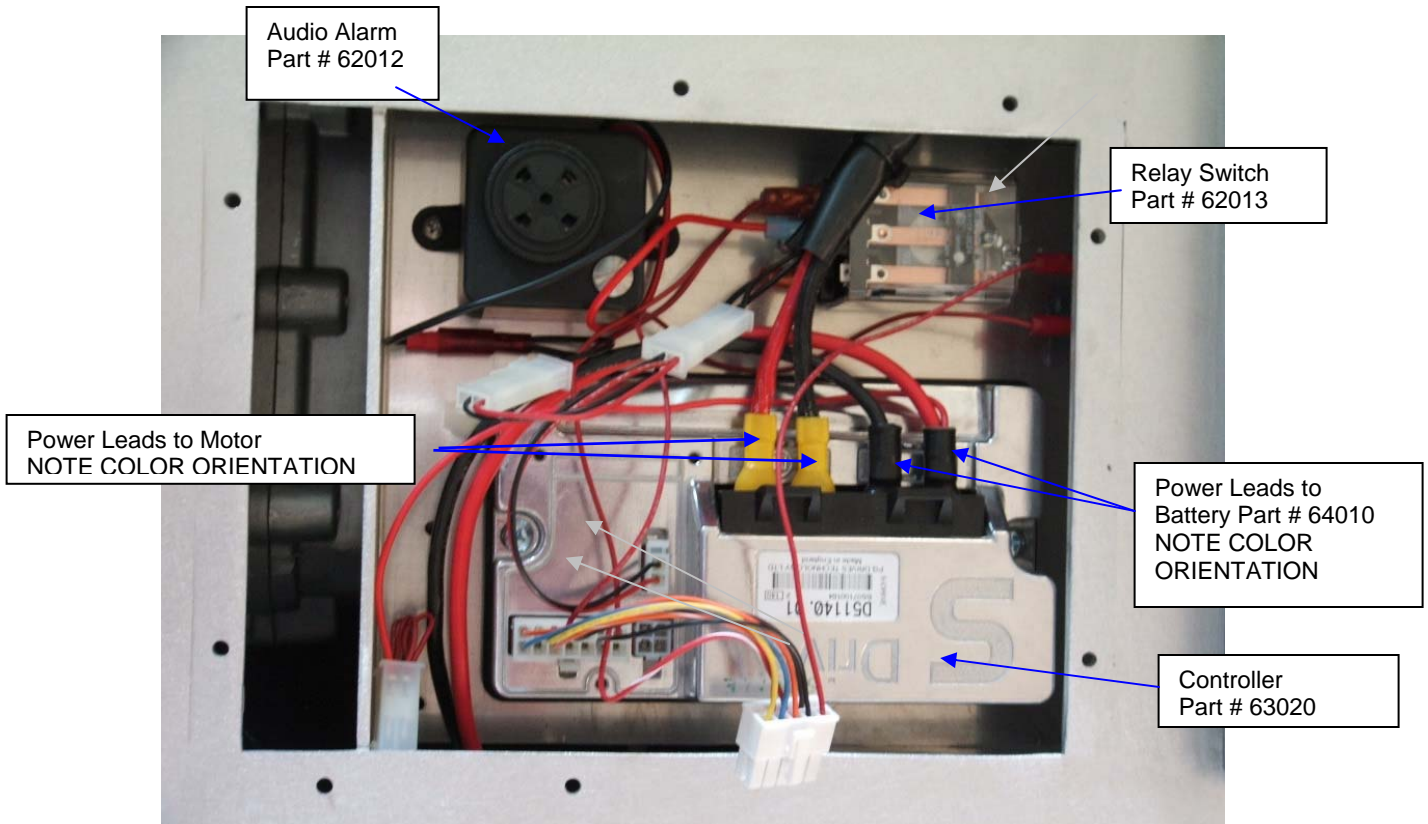

Fig. 7k S-Drive Controller
- 10) Remove the tires (Fig. 7k).